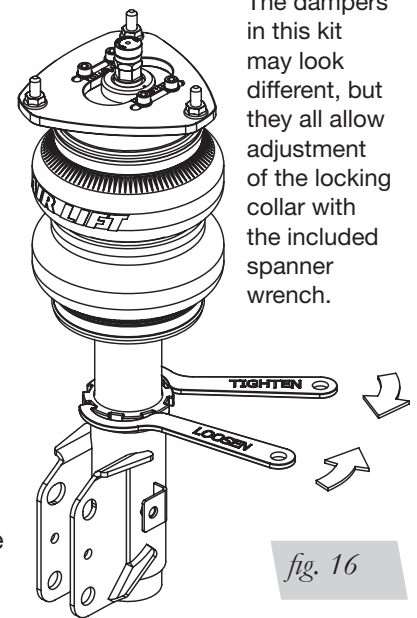

fig. 16
3. Using the supplied spanner wrench, loosen the locking collar (Fig. 16).